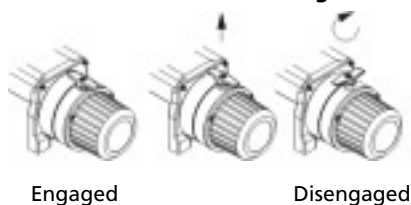

Figure 8
1. Rotate the clutch lever to the "Disengaged" position as shown in Figure 8. If there is a load on the wire rope, the clutch lever may not turn easily. **DO NOT FORCE THE CLUTCH LEVER.** Release tension on the wire rope by joggling out some of the wire rope, then try releasing the clutch.
3. Check that there are at least five (5) turns of wire rope left on the drum.
4. Re-engage the drum by rotating the clutch lever to the "Engaged" position (see Figure 8).